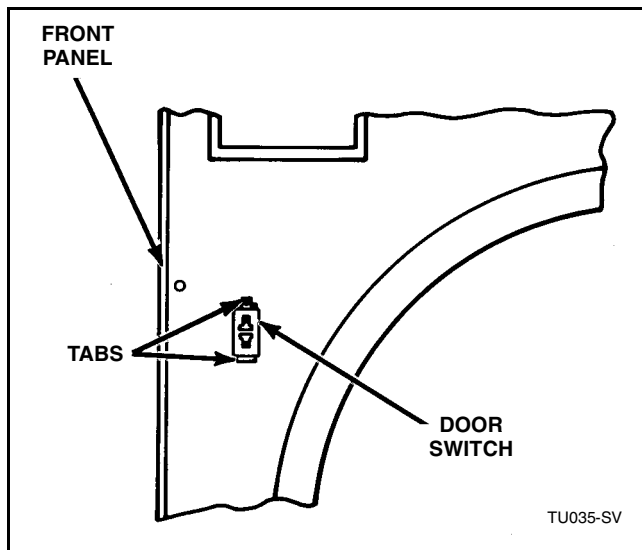

Figure 27
- Depress tabs on top and bottom of switch and push switch out through front of panel. Refer to Figure 27.